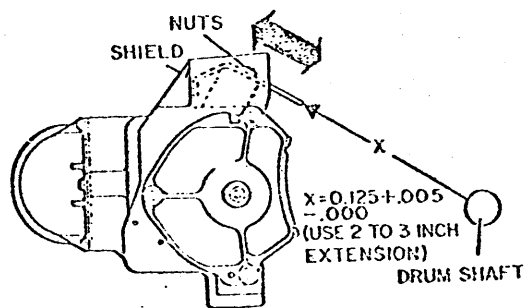

Fig. 3-214. Lamp Shield
3. Adjust the shield to the dimension shown in Fig. 3-214.